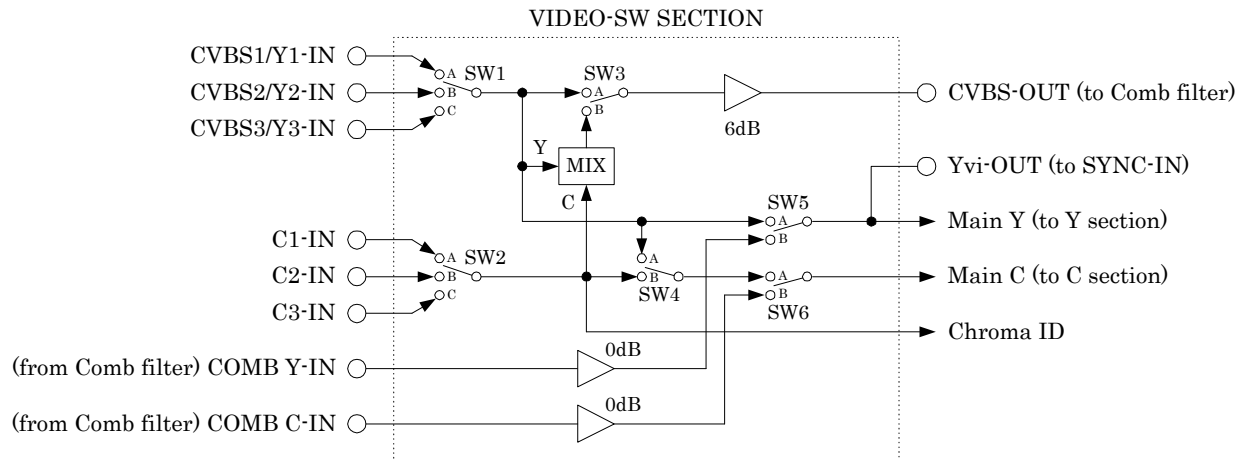

Fig. 1 Signal route at Video SW section
1) "AUTO-SW" = (1) Manual select
When "AUTO-SW" is (1) Manual select, input signal is selected by the BUS as Fig. 1 and Table 1. Mainly, CVBS-OUT(pin 3) is used for the comb filter input, and Yvi-OUT(pin 11) is used for synchronization(pin 2). Besides, on chroma line from video SW to main route, the peak detection is done during the burst period. The result is responded to the Read BUS data, C ID.